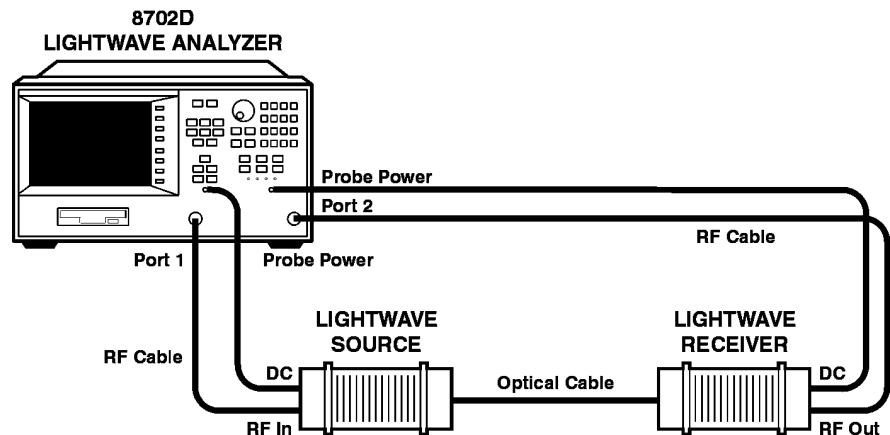

Figure 5-11. Pulse Dispersion Test Setup
- 2 Connect the system as shown in Figure 5-11.